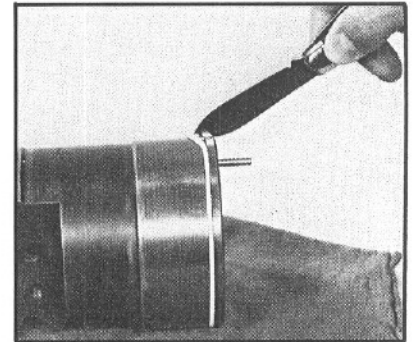

Figure 71
35. Remove and discard the teflon rack piston seal ring (29) and backup O-ring (30) (FIG. 71).